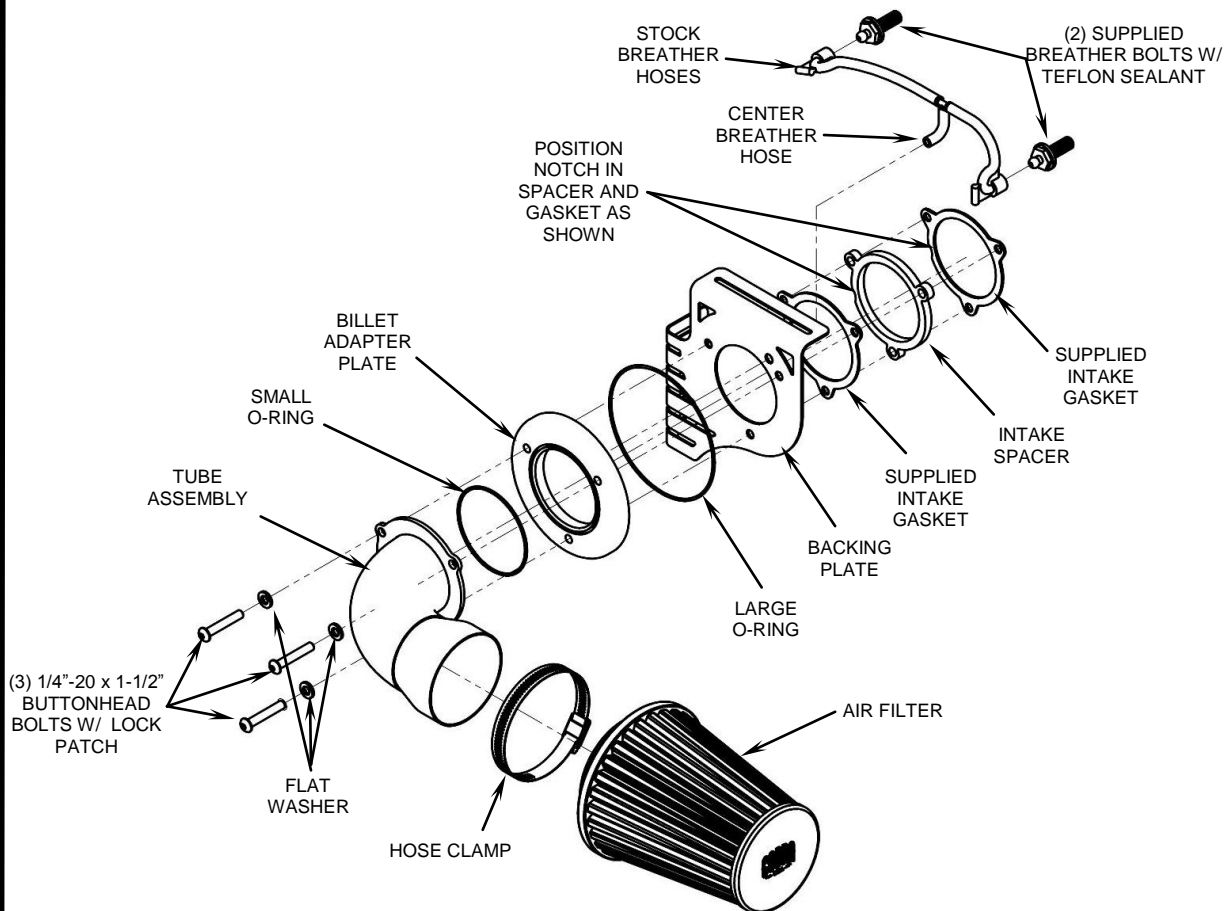

FIGURE 2
3. Install the supplied breather bolts into the cylinders. See **FIGURE 2**. Tighten securely.
4. Insert the center hose of the stock breather hose assembly through the hole in the supplied backing plate so that there is about 1/8" sticking out the other side. This will get pushed into the billet adapter plate in later steps. See **FIGURE 2**.
5. Place the small and large o-rings onto the grooves of the billet adapter plate. A small amount of grease may be needed to hold the o-rings into position. See **FIGURE 2**.
6. Starting with the tube assembly, stack all the parts together in the proper order according to **FIGURE 2**. Make sure the breather hose pushes into the billet adapter plate and that the o-rings are seated properly in the grooves. Also check to make sure the spacer and gaskets are aligned properly with the notch to the bottom left side.
7. While holding that assembly together with one hand, insert the (3) supplied 1/4"-20 x 1-1/2" buttonhead bolts through the flat washers, tube assembly flange and all other components. See **FIGURE 2**.
8. Then align all the components with the throttle body and start threading the (3) buttonhead bolts into the throttle body. Tighten the three bolts evenly.
10. Place the supplied HS-48 clamp around the rubber boot of the K&N® filter so that the clamp screw will be on the inside and facing down. Then slide the filter onto the tube as far as it will go. Align the logo on the front cover so that it is level with the ground and tighten the clamp. See **FIGURE 2**.